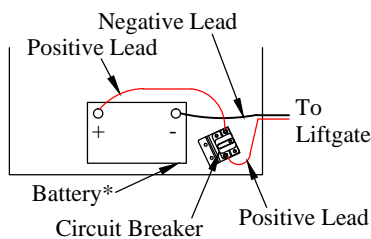

Figure 18: Circuit breaker bracket.
1. **Install** the circuit breaker on the circuit breaker bracket with 1/4" screws and nuts (Figure 18).